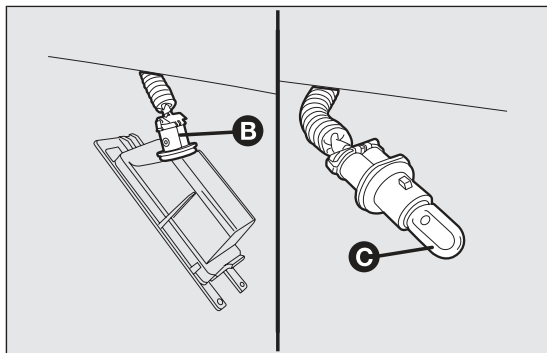

fig. 173
- ☐ turn the bulb holder B fig. 173 clockwise;